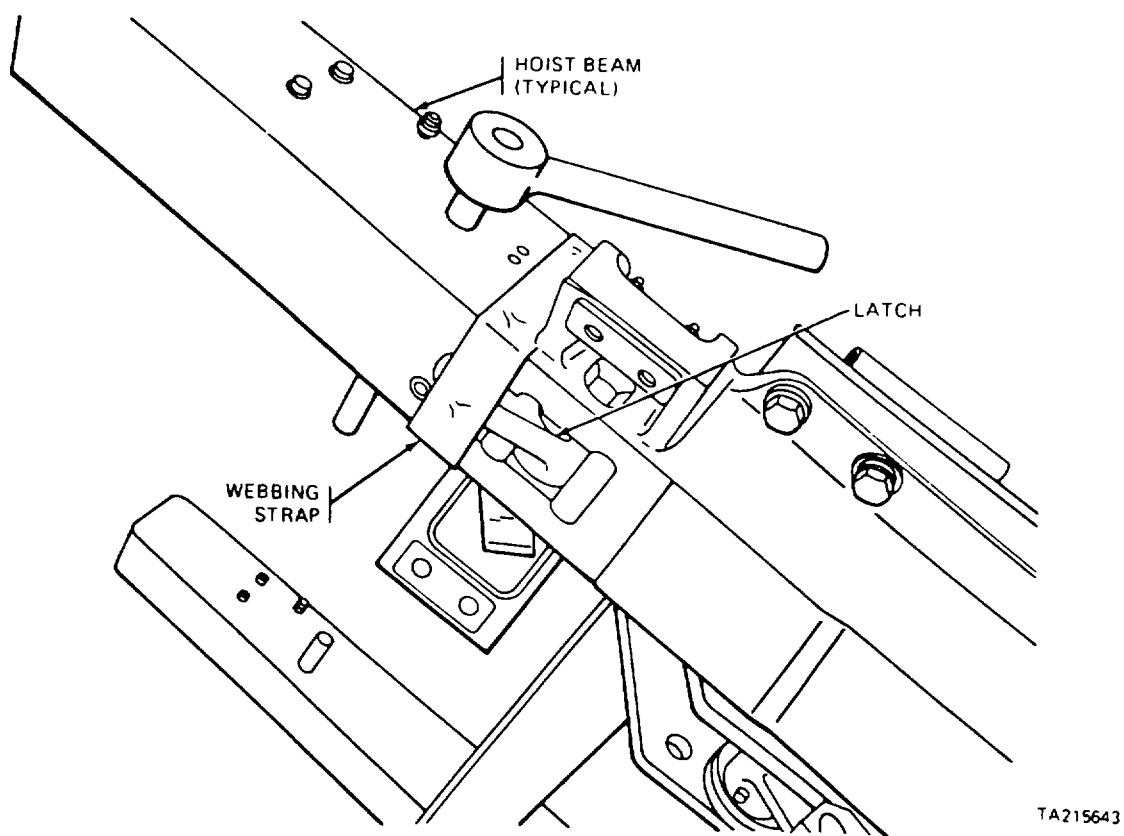
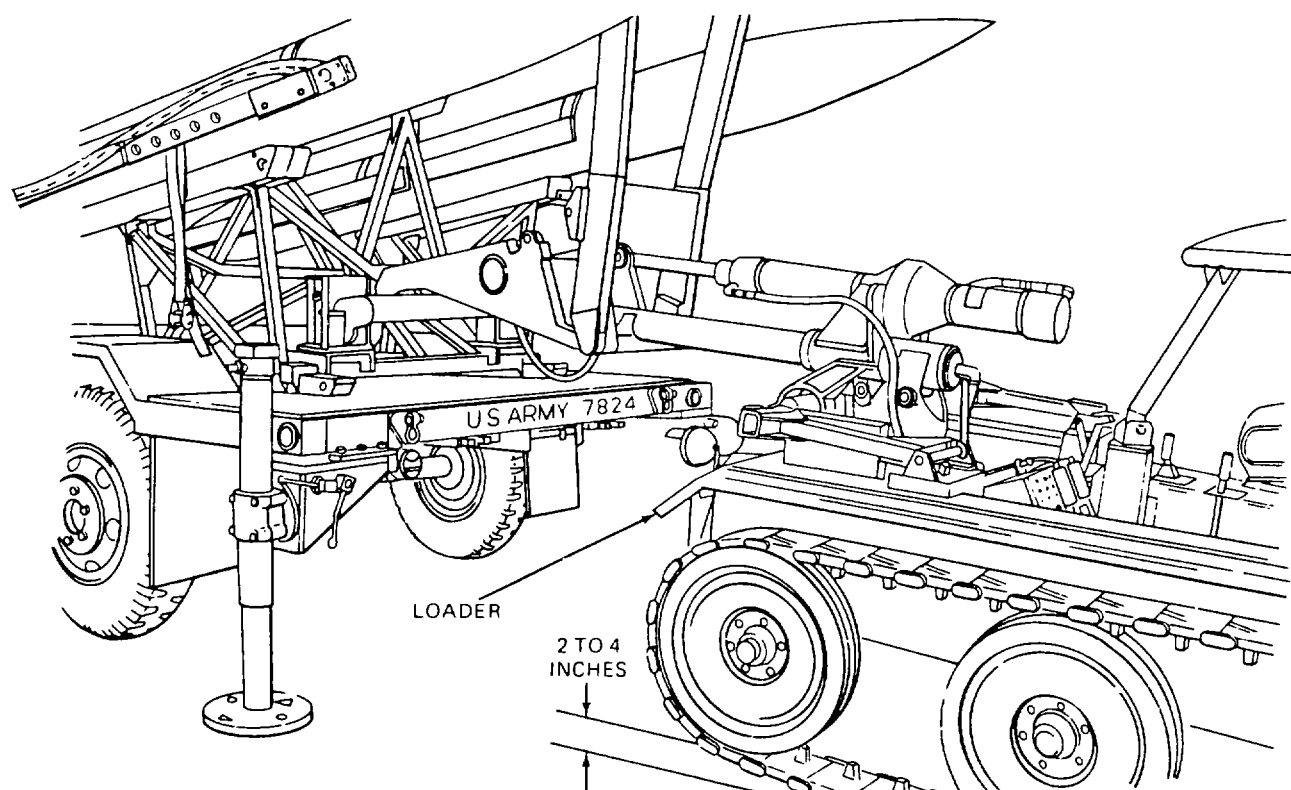

Figure 6-24 Hoist Beam Latches
Figure 6-25. Loader's Front End Raised.
(2) Strap the latches on left and right hoisting beams to prevent engagement (figure 6-24).
(3) Index the loader to the pallet.
(4) Preload the loader by retracting the elevation cylinder sufficiently to raise the loader front end 2 to 4 inches (figure 6-25).